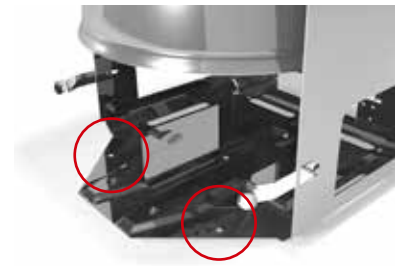

Fig. 19
2. Mark the position of the holes on the floor (fig. 19). Remove the toilet.